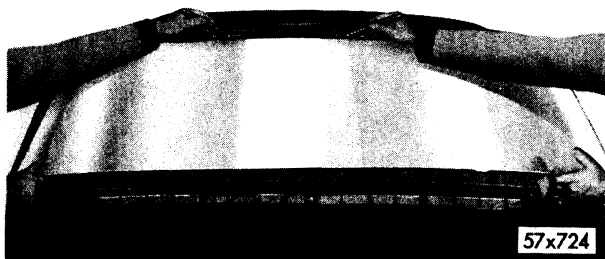
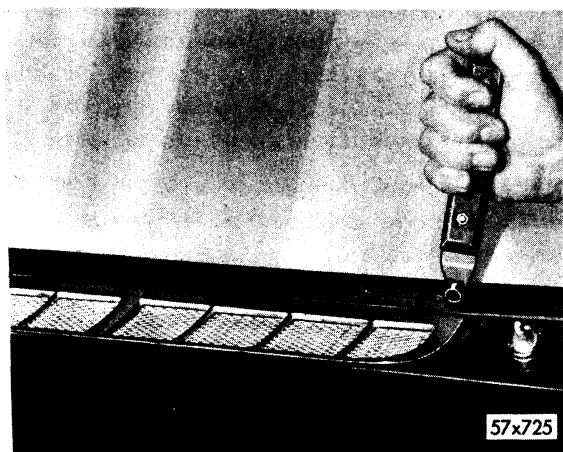

Fig. 75—Installing Windshield Glass
Fig. 76—Stripping Glass into Weatherstrip
**Do not use a strong solution.** Coat weatherstrip with Sealer and center and insert upper end of glass in weatherstrip, as shown in Figure 75. Hold glass in position and insert wedge in weatherstrip groove, as shown in Figure 76,